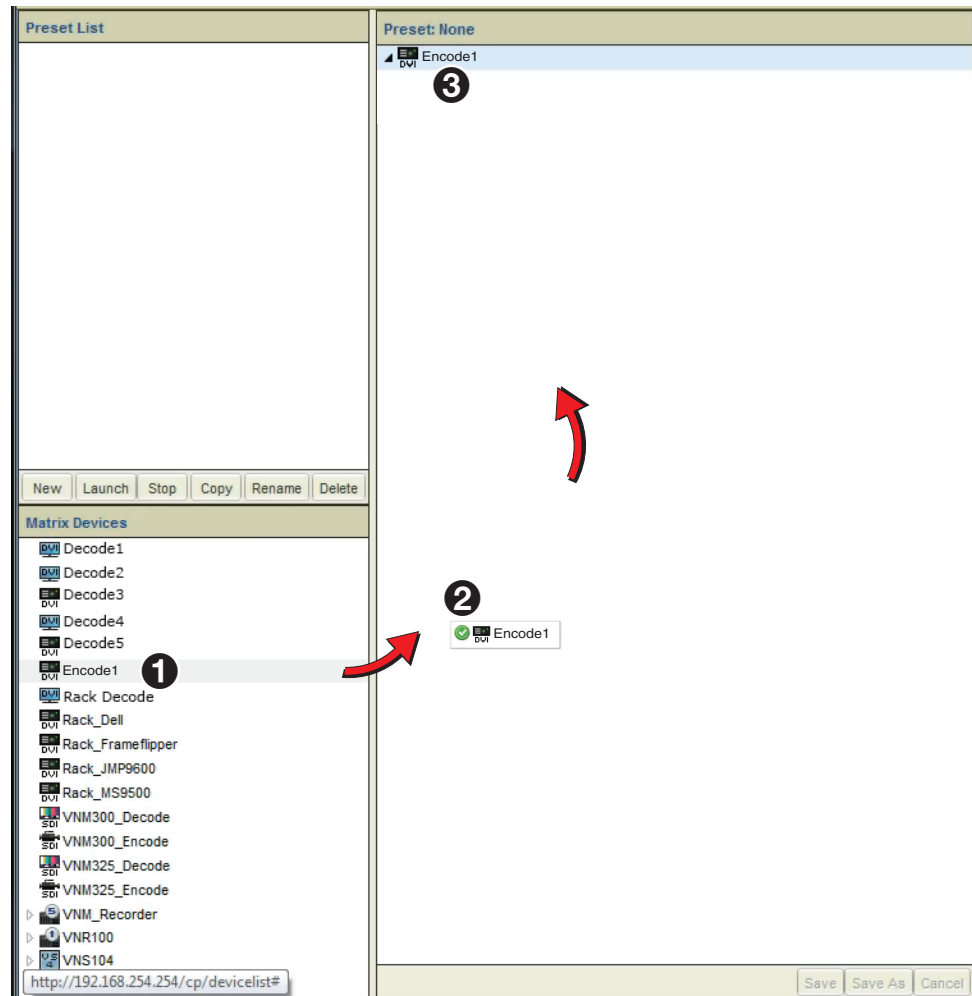

Figure 103. Preset Workspace, Place a Device
2. Add an encoder to the **Preset** panel. Click and hold the encoding device (see figure 103, ❶).